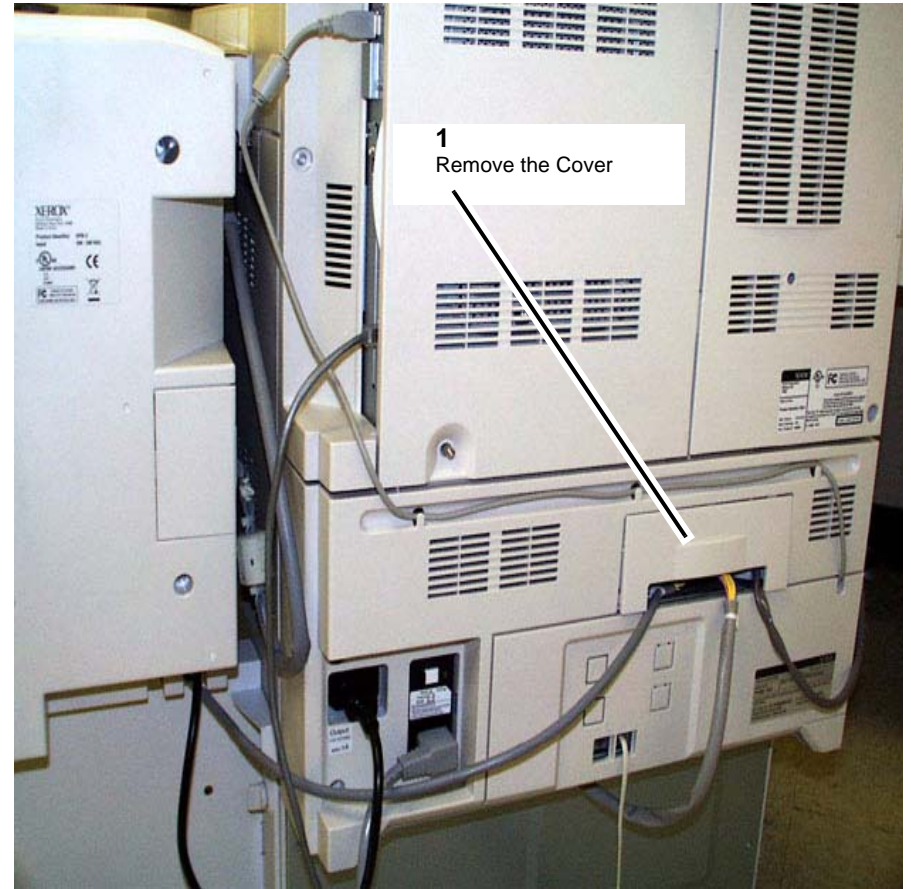

Figure 3 Removing the cover
3. Remove the cover. (Figure 3)